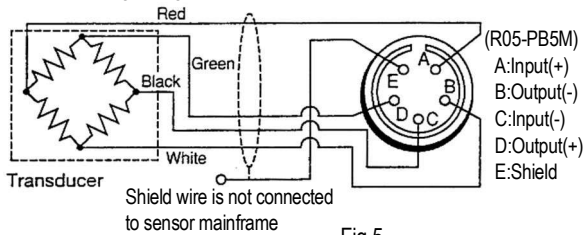

Fig.5
5.2 If a strain amplifier other than KYOWA make is used, connection will be made, referring to Fig.5 below.